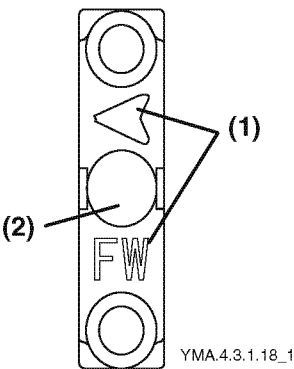

Figure 5-77
- The main bearing cap should be installed with the arrow and “FW” (**Figure 5-77, (1)**) on the cap facing the flywheel.